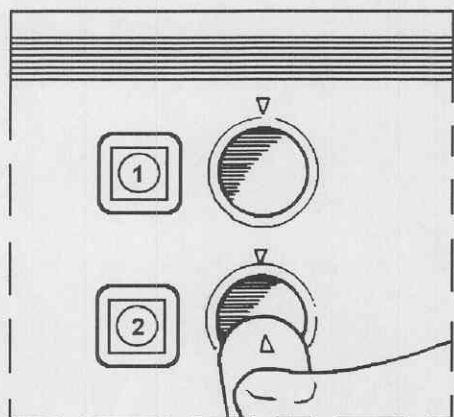

Figure 2-7. Handpiece connector alignment.
a. Select either the 1 or 2 handpiece receptacle. Then, align the arrow on the handpiece connector with the arrow on the APS console. Refer to figure 2-7.